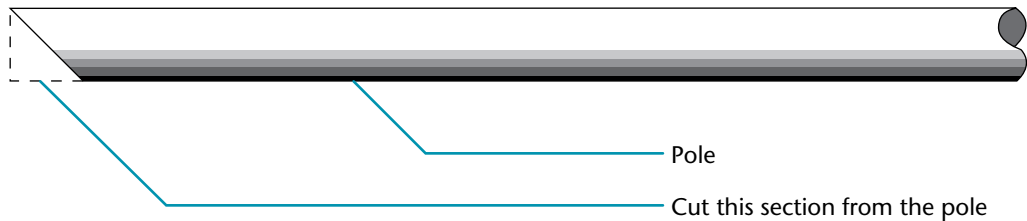

Figure 4-22. Cutting bottom of pole at a 45° angle
1. If you are using the recommended DirecPC pole, go to step 2. Otherwise, use a hacksaw to cut the bottom edge of the pole at a 45° angle, as shown in figure 4-22. This prevents the pole from rotating in the concrete over time.